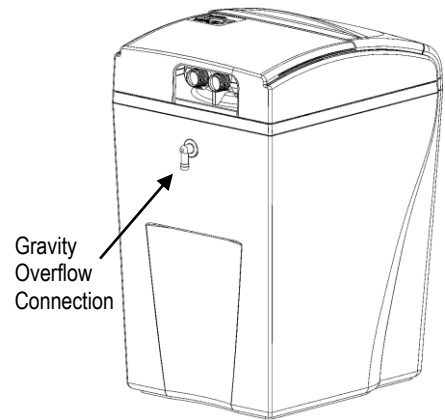

Figure 4: Gravity Overflow Connection
- A. Attach the gravity overflow connection elbow and check that it is in the down position. (See Figure 4.)